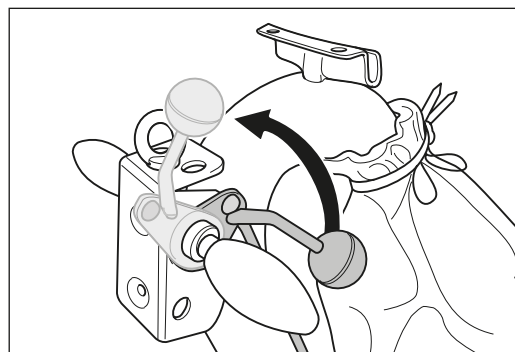

Fig. 48 Lift the sanding drum off the floor by turning the lowering lever at the handle upwards.
- 1 Lift the sanding drum off the floor by turning the lowering lever at the handle upwards (fig. 48).